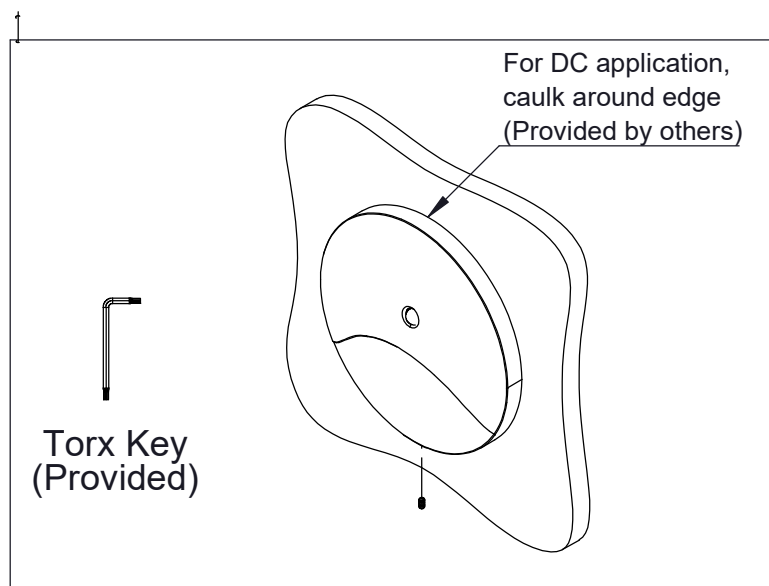

Figure 4
4. Secure Faceplate to Driver Unit with Set Screw using the provided Torx Key and for behaviour health application (DC), caulk all edges that meet the mounting wall (Fig. 4)